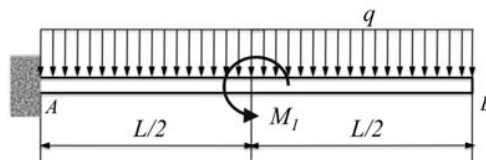

Figure 3
- (a) Find the angle of twist in degrees when the maximum shear stress in the hollow shaft is 50 MPa. (6)
- (b) Find the diameter of a solid shaft of same material and length resisting the same torque and has the same maximum shear stress. (8)
- (c) Calculate that ratio of the weights of the hollow and solid shafts. (4)
3. A  $L = 2$  m long cantilever beam of square cross section of side  $b$  is subject to a distributed load  $q = 1$  kN/m and a moment  $M_1 = 1$  kN-m at the mid span as shown in Figure 3.